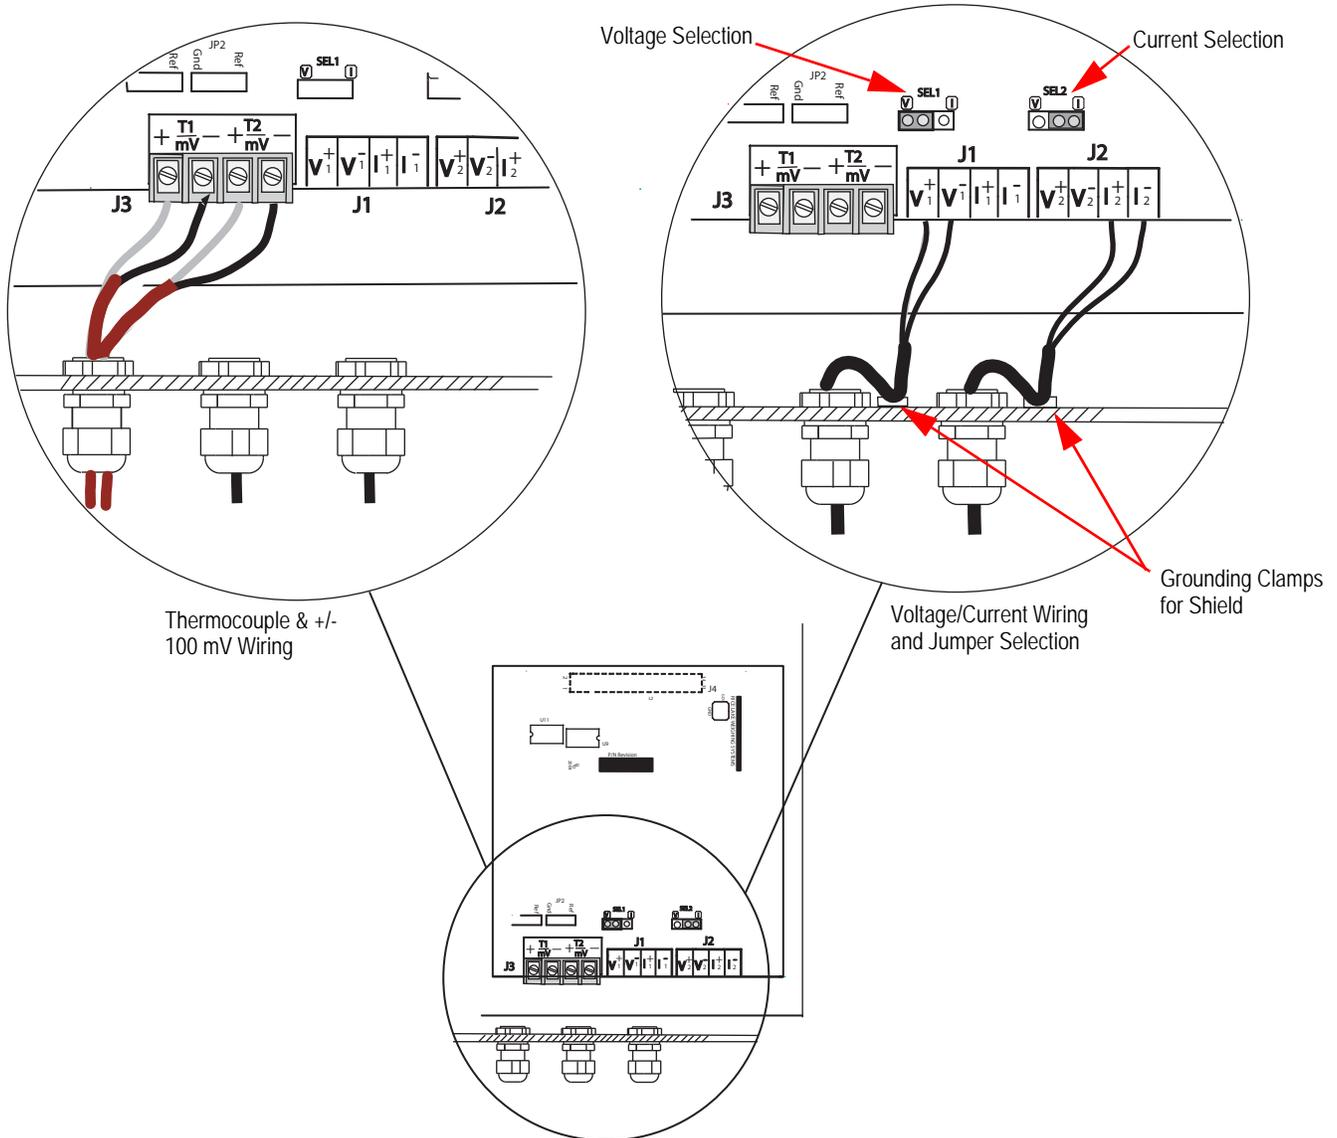

Figure 5. Thermocouple and +/- 100 mV Voltage/Current Selection Wiring Diagram
1. Insert the multi-cable bushing (PN 73997), into one of the available cord grips on the 920i located closest to the analog input option (See Figure 5).
4. Install wires into the J3 connector on the analog input option card. Depending upon the type of cable used, the wire colors will differ, however, the – signal is always the red wire (see Figure 5).